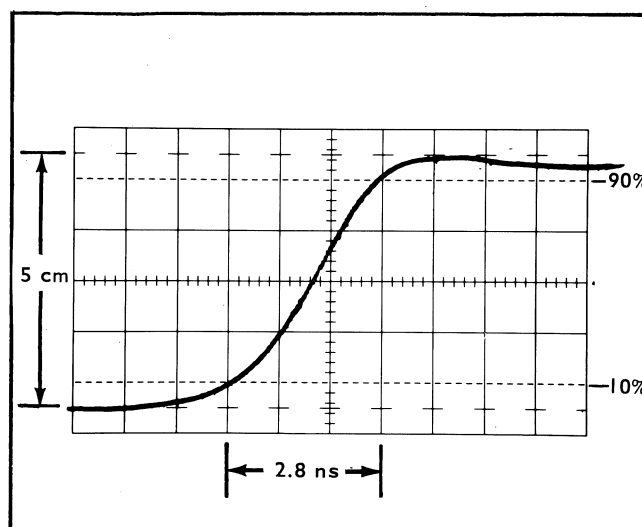

Fig. 5-13. Typical display showing pulse risetime.
i. Check—Risettime should be 3 ns (3 cm) or less. See Fig. 5-13.